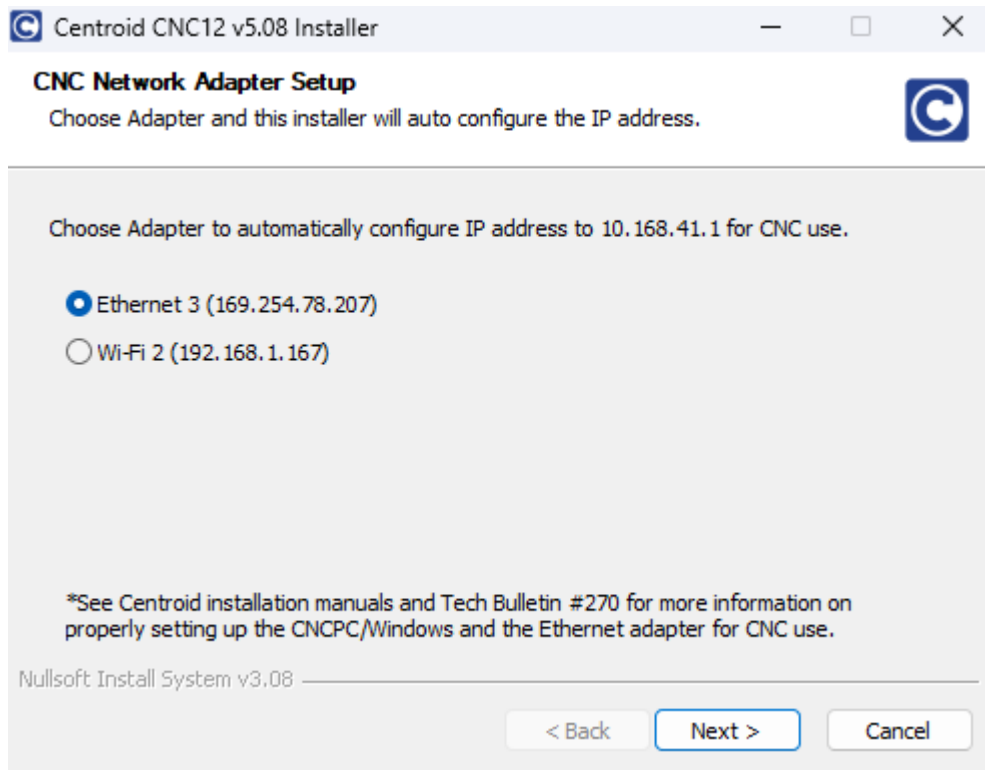

Figure 3.2.9
2. If the Ethernet Adapter has not yet been set up for CNC control, you will see a screen as shown in Figure 3.2.9. Select the Ethernet option to automatically configure the IP address for CNC use and click “Next”. **DO NOT** select the Wi-Fi option. A prompt will appear asking if you want to change the IP address of the Ethernet adapter. Select “Yes”.